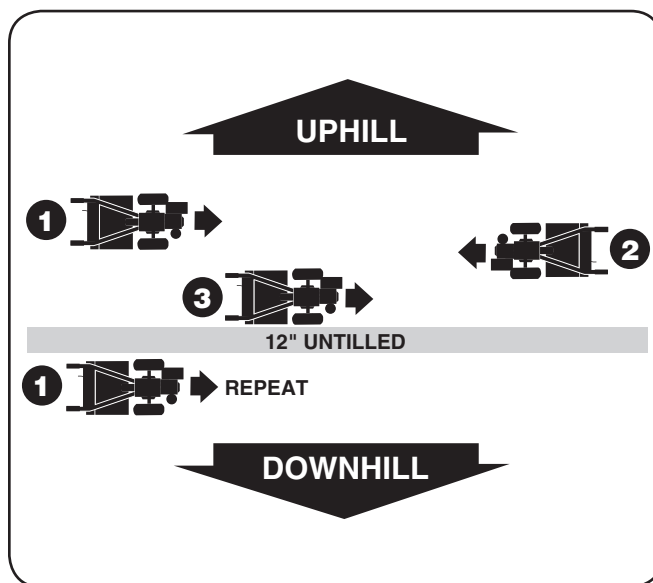

Figure 5-9
- To create a terrace, start at the top of the slope and work down. Go back and forth across the first row as shown in Figure 5-9.